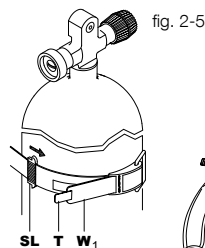
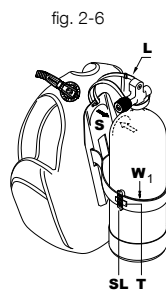

fig. 2-5
fig. 2-6
2. If the BC has a hard backplate, place the cavity (S) of the backplate on the shoulder of the tank (Fig. 2-6) and then fasten the strap (Fig. 2-5 and 2-7) of the quick-release belt (W1) around the tank.
3. Close the buckle (C) (Fig. 2 – 7). If the strap is too tight or too loose, open the hook and loop strap and the buckle to readjust the length of the strap (Fig. 2-5) of the quick-release belt (W1). For added safety, slide the loop (SL) (Fig. 2-5) around the strap end (T). In BCs with a hard backplate, with the tank mounted to the BC you can lift the entire unit using the handle integrated into the backplate.